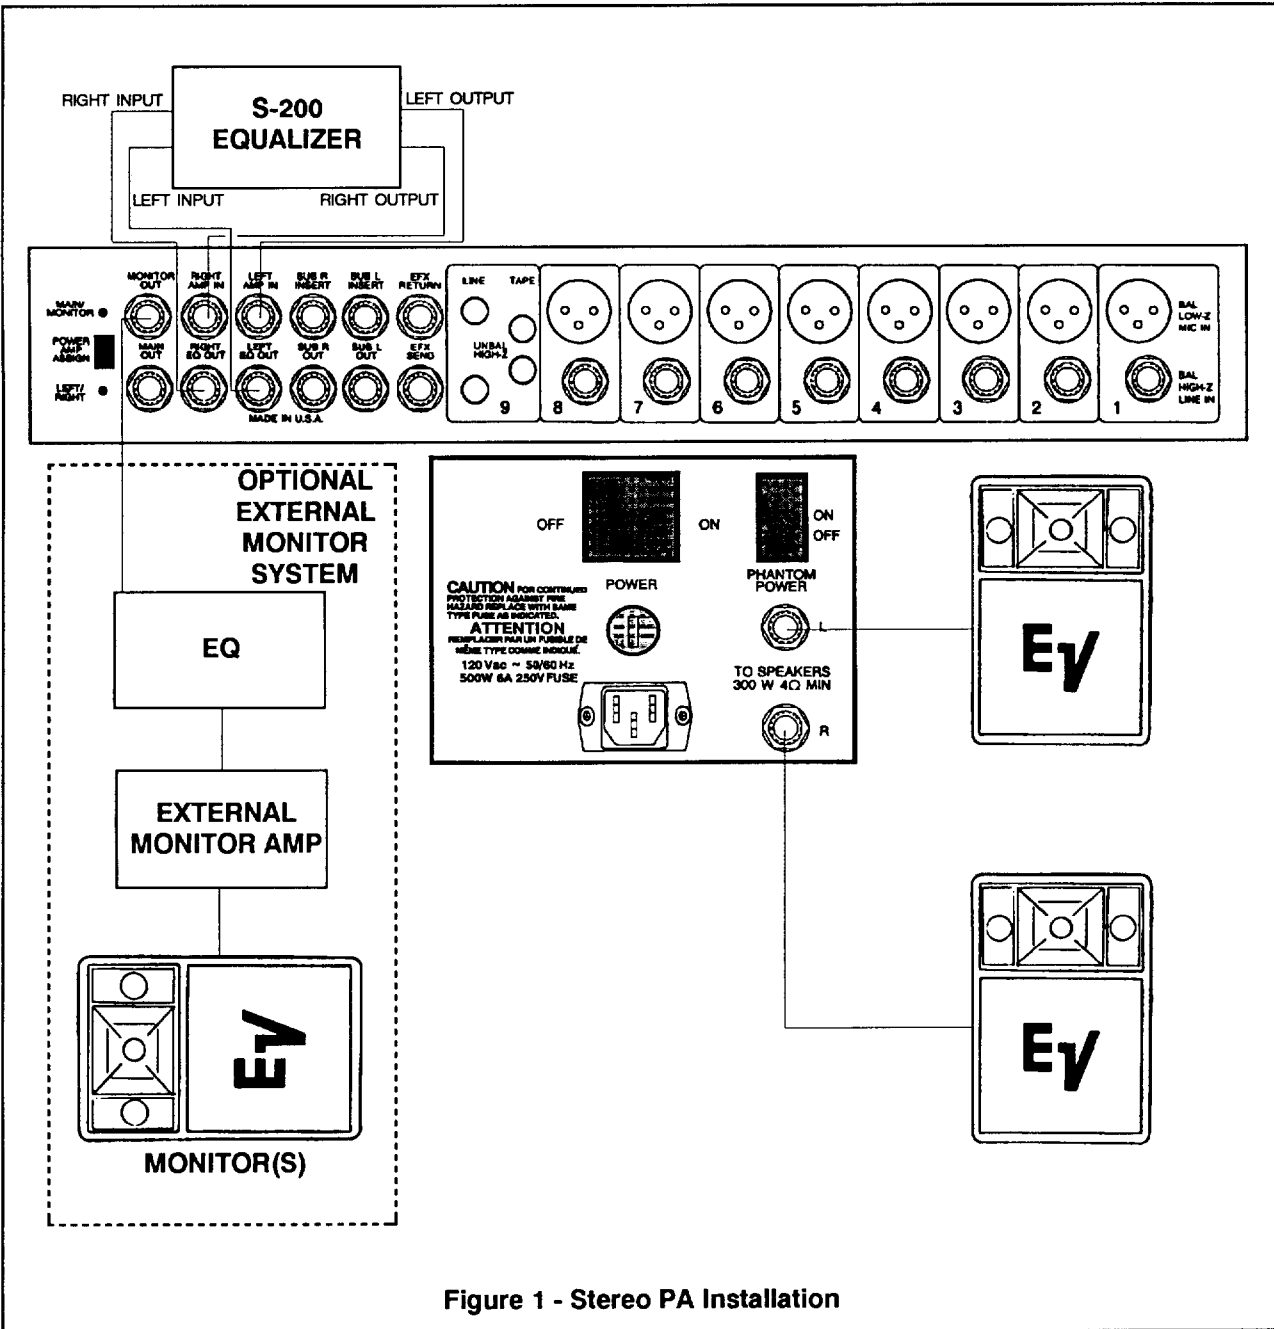

Figure 1 - Stereo PA Installation
**STEREO PA WITH S-200 EQUALIZER (See Figure 1)**